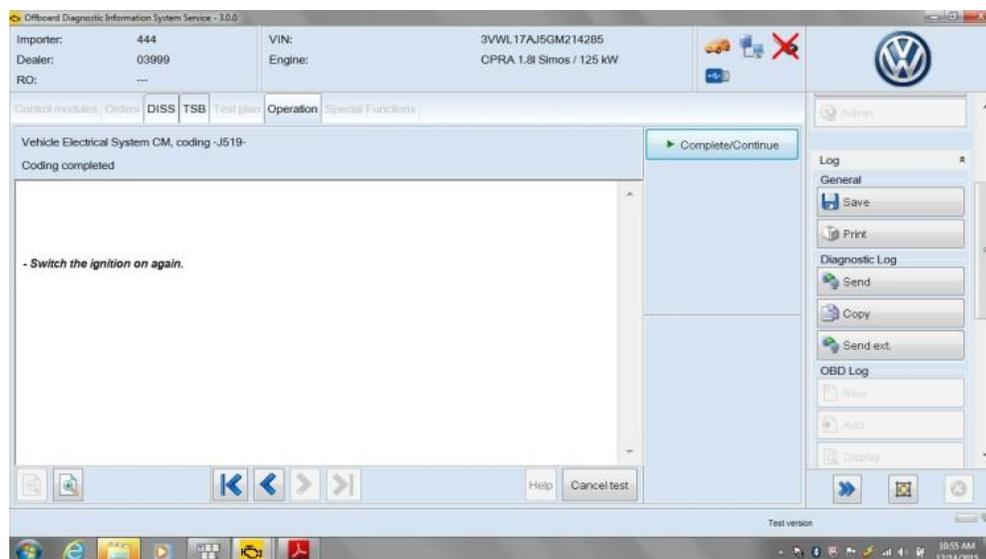

Figure 12
- Next switch ignition on and depress Complete/Continue. (Figure 12)